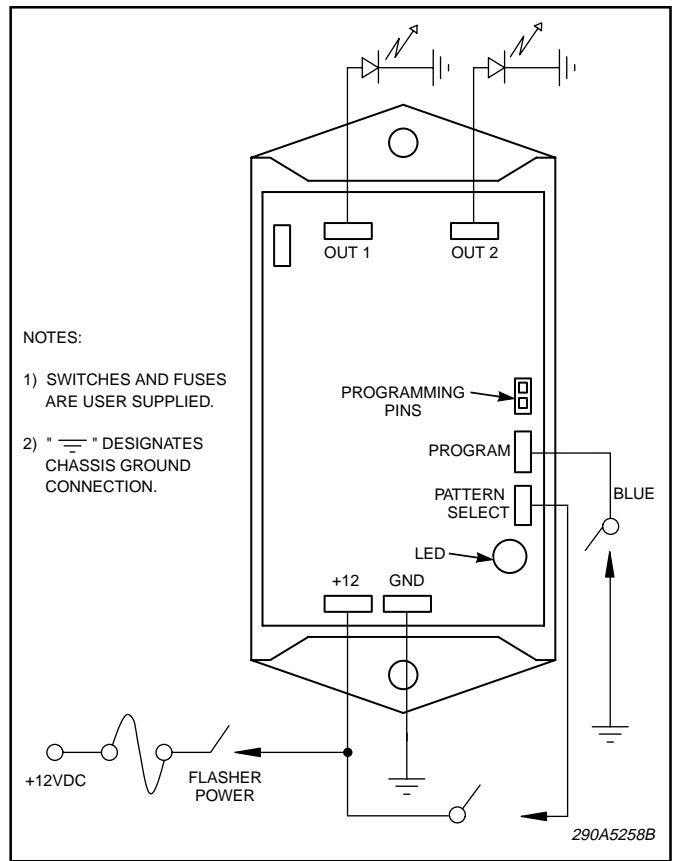

Figure 1.
E. Flasher (see figure 1).
Refer to figure 1 when performing the following procedure.
The red/green LED as indicated in figure 1 will be illuminated green when an SAE approved flash pattern is selected. When an unapproved SAE flash pattern is selected, the LED will be illuminated red. The red/green LED may alternate between red and green for several flash patterns.